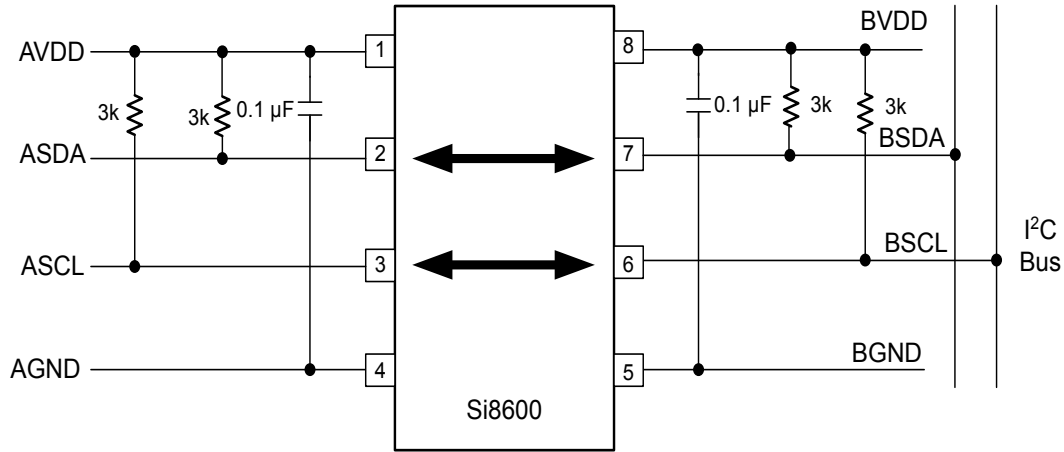

Figure 3.2. Typical Si8600 Application Diagram
3.0 V < VDD < 5.5 V. TA = −40 to +125 °C. Typical specs at 25 °C (See Figure 5.2 Simplified Timing Test Diagram on page 18 and Figure 3.2 Typical Si8600 Application Diagram on page 8 for test diagrams.)